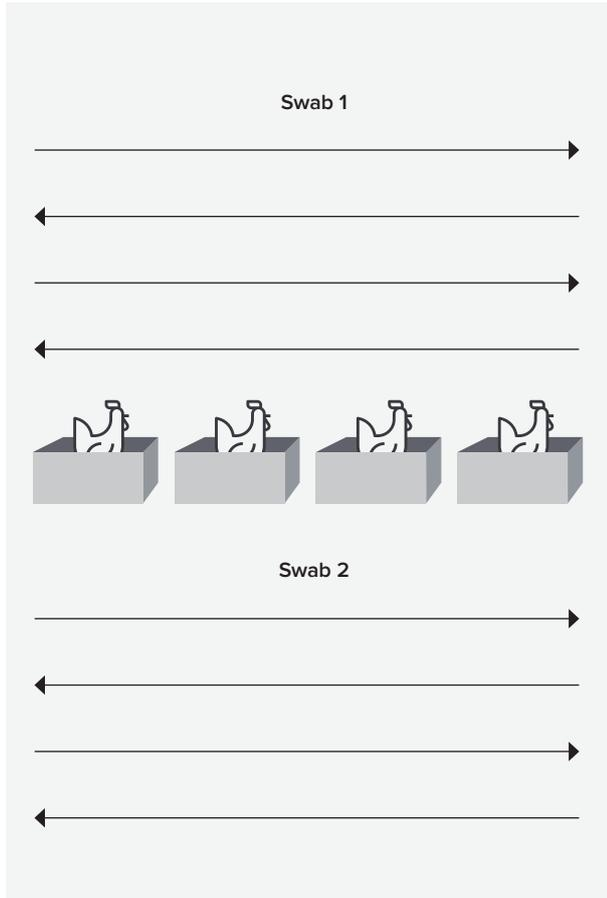

Figure A5 – Swabbing procedure for slatted shed
- Walk down one side full length of the shed, dragging the swab over the top of the slats in the manner shown in Figure A5 by the arrow “Swab 1”. Repeat this up and down 3 more times.
- Walk down the other side of the shed, dragging the swab over the top of the slats in the manner shown in Figure A5 indicated by the arrow “Swab 2”. Repeat this up and down 3 more times.